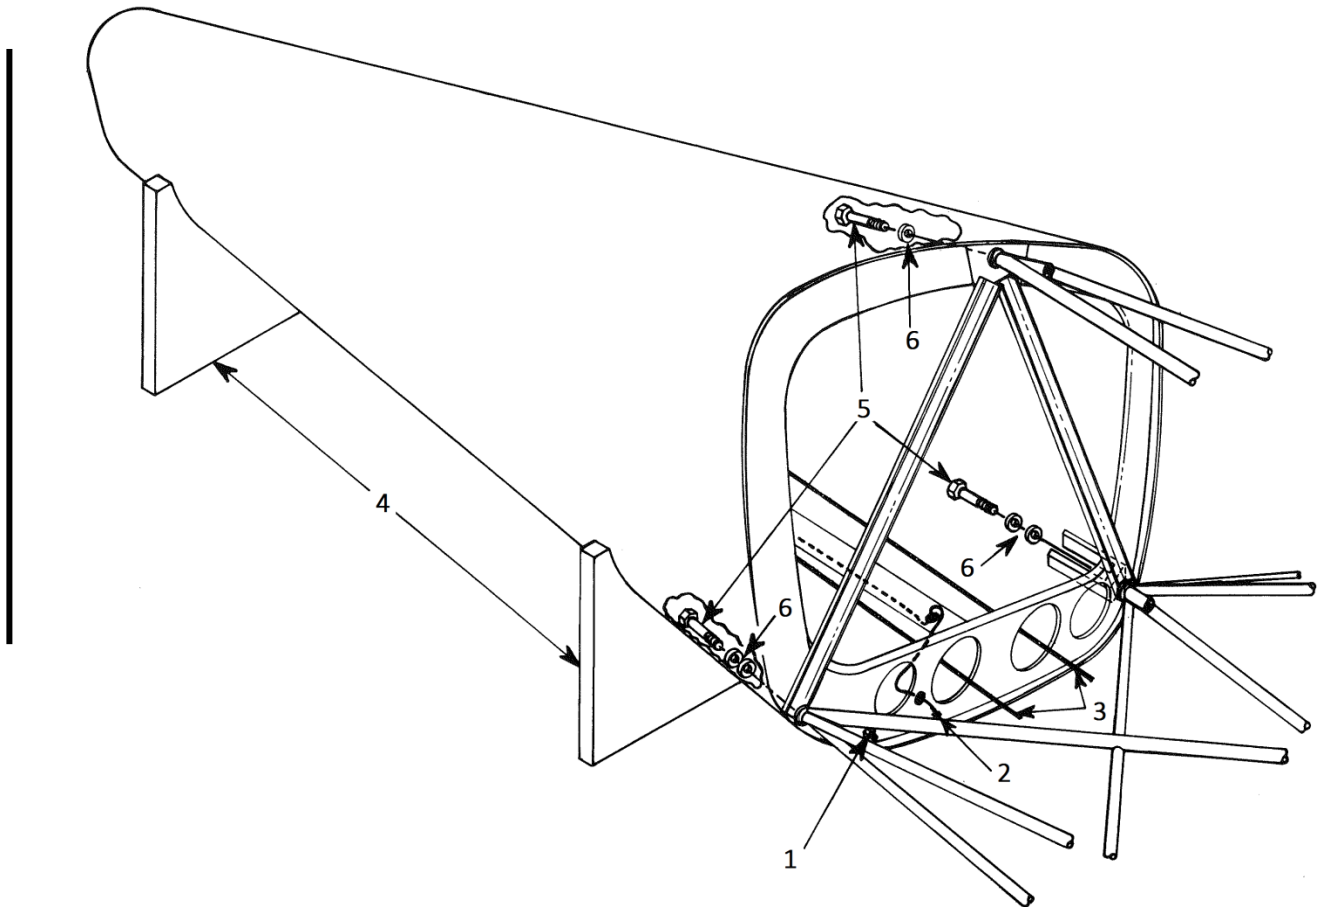

Figure 8-14. Tailcone Installation
A. Tailcone Removal (See Figure 8-14)
4. Disconnect static line from bulkhead fitting (1) on lower right side of tailcone.
5. Disconnect strobe wires (2) at forward end of tailcone.
7. Disconnect the tail rotor cables (3) at control brackets on tail rotor transmission. Attach a string to each individual cable and pull cables through fair leads to forward portion of tail cone assembly. For later ships with pulley fairleads at aft bulkhead, remove inspection panel for access and remove cotter keys from pulleys.
D. Tailcone Installation (See Figure 8-14)